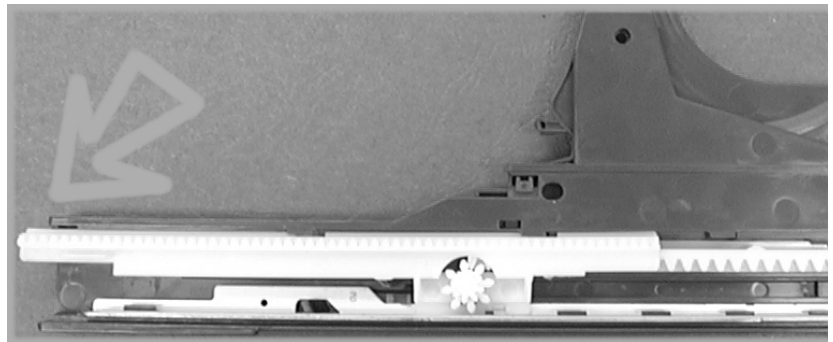

Figure 9
- 1) Slide the drive rack (332) away from the front of the disc tray (Figure 9).